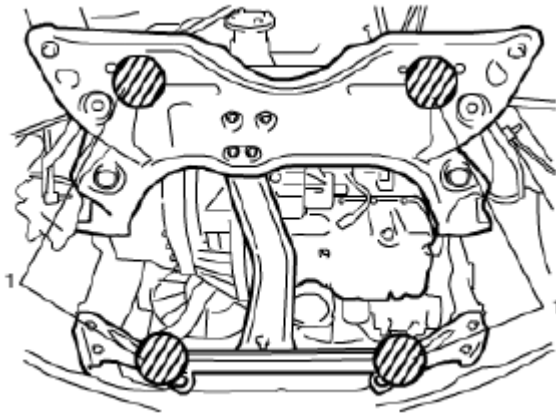

Fig. 41: Supporting Front Suspension Frame & Front Lower Cross Member
25. Support front suspension frame and front lower cross member using jack at hatched parts (1) indicated in **Fig. 41**.